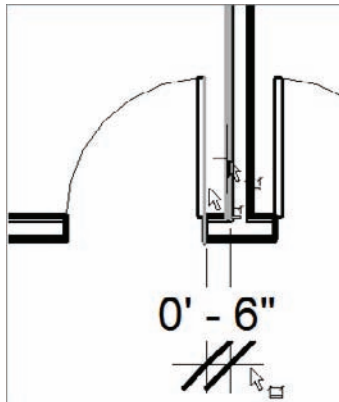

FIGURE 5.39 Placing a dimension (note that the door tags have been removed for clarity)
2. Place a dimension between the door and the wall, as shown in Figure 5.39.